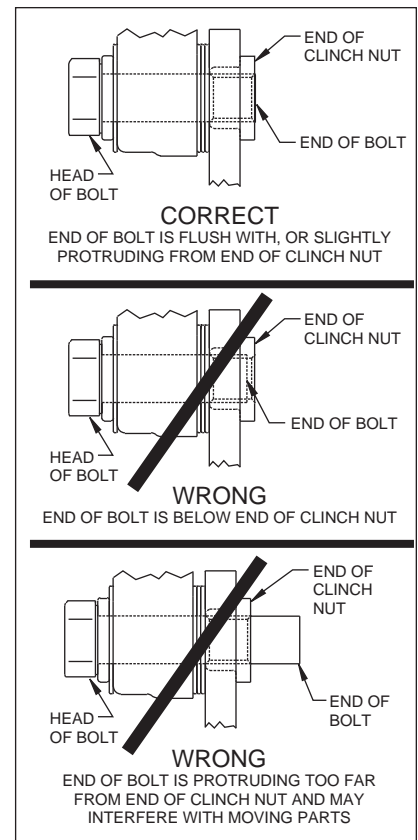

Figure 3.
- NOTE:** Please reference the caution statement at the beginning of the assembly instructions. Mount the caliper (10) onto the caliper mounting bracket (1) using bolts (11) and washers (12). View the rotor (6) through the top of the caliper (10). The rotor (6) should be aligned in the center of the caliper (10). If not, loosen the two bolts (11) and adjust the caliper (10) by using 0.035 inch thick shim washers (13). The shim washers (13) should be placed between the caliper (10) and the caliper mounting bracket (1). Finger tighten and recheck alignment. Add as many shim washers (13) as necessary to achieve the correct alignment. **NOTE:** The end of the bolt must be flush with or slightly protruding from the head of the clinch nut. See Figure 3. Place spare shims (13) between washer and caliper mounting ear to achieve the proper mounting fastener configuration. Always use the same amount of shims on both the top and bottom caliper mounting bolts (11). Loosen the two bolts (11) and apply red *Loctite*® 271 to bolt threads (11) and torque to 40 ft-lb.
- Install the disc brake pads (14) and secure using cotter pin (8). Repeat this procedure for the other wheel.